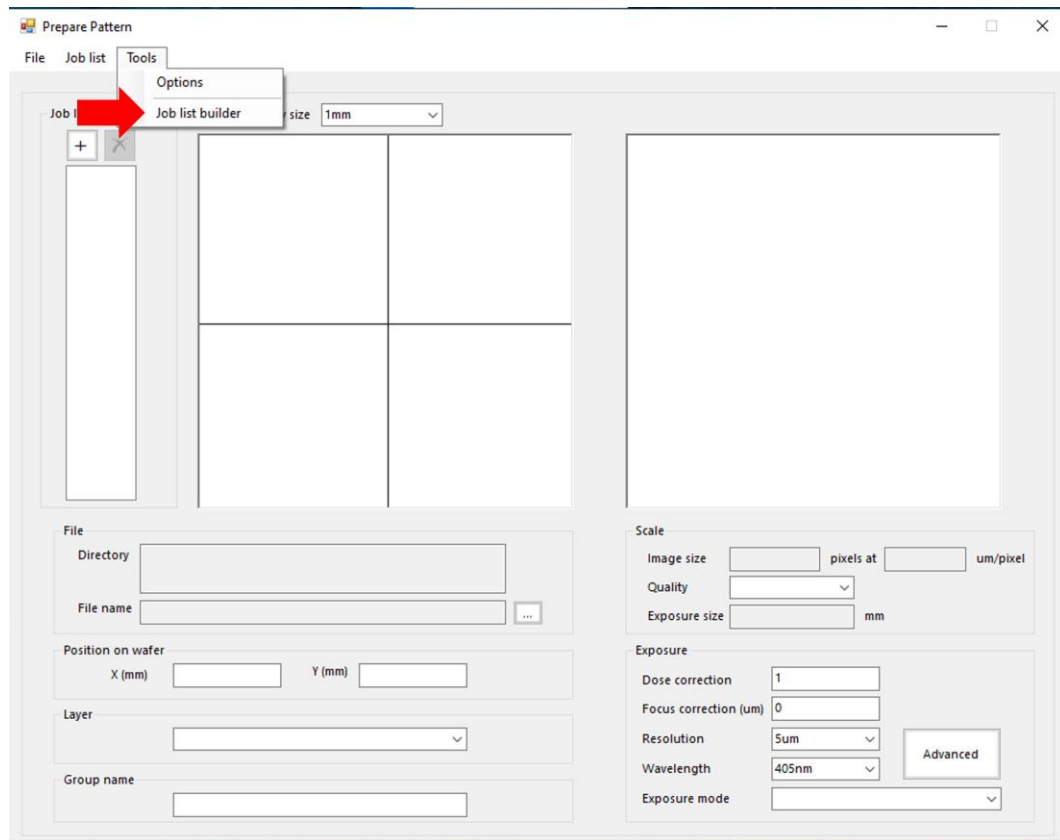

Figure 1 Software tool "Job list builder."
- To create a job list for a dose focus test, go to Tools > Job list builder (Figure 1).